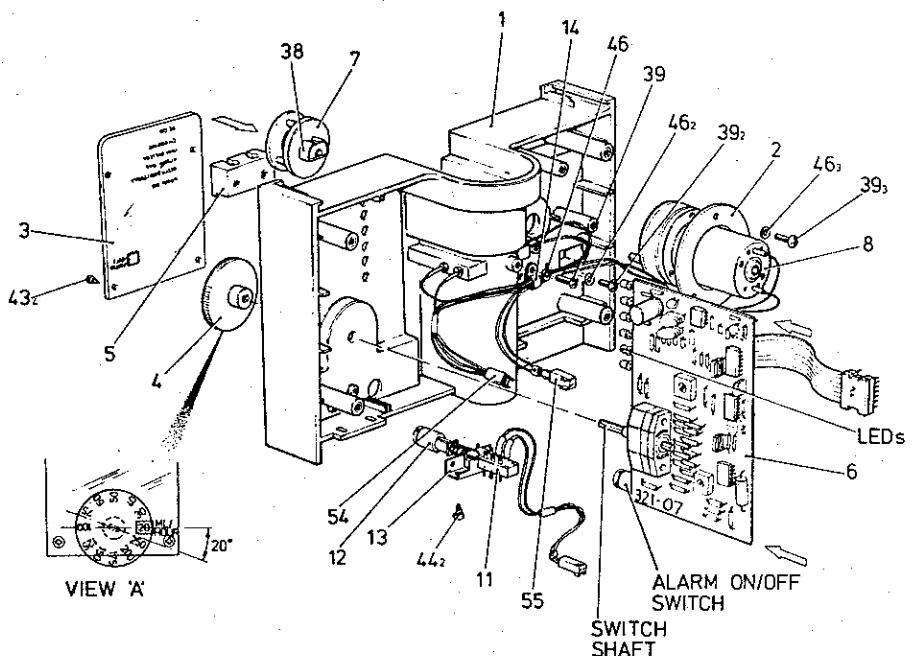

Fig. 5
Refer to Figure 5. Locate the motor/gearbox assembly (item 8) through the hole in the front housing (item 1). Ensure that the front bearing of the gearbox passes through the hole in the front housing.
Place the speed control knob (item 4) over the "double D" profile of the switch shaft. The speed control knob should be aligned as indicated in View 'A' (Figure 5) when the switch shaft is turned fully counterclockwise.